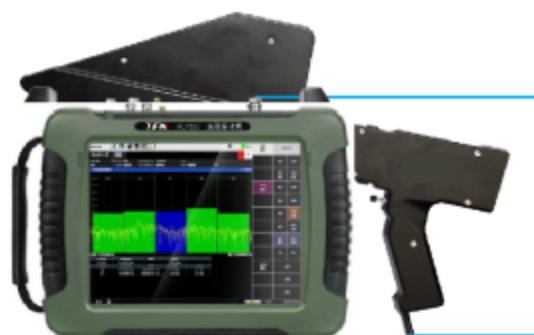

Figure 9.6 Connecting diagram of handheld DF antenna and RMT series spectrometer
Step 1. Connect the handheld DF antenna to the RMT series spectrometer RF input port and the USB port, as shown in Figure 9.6: